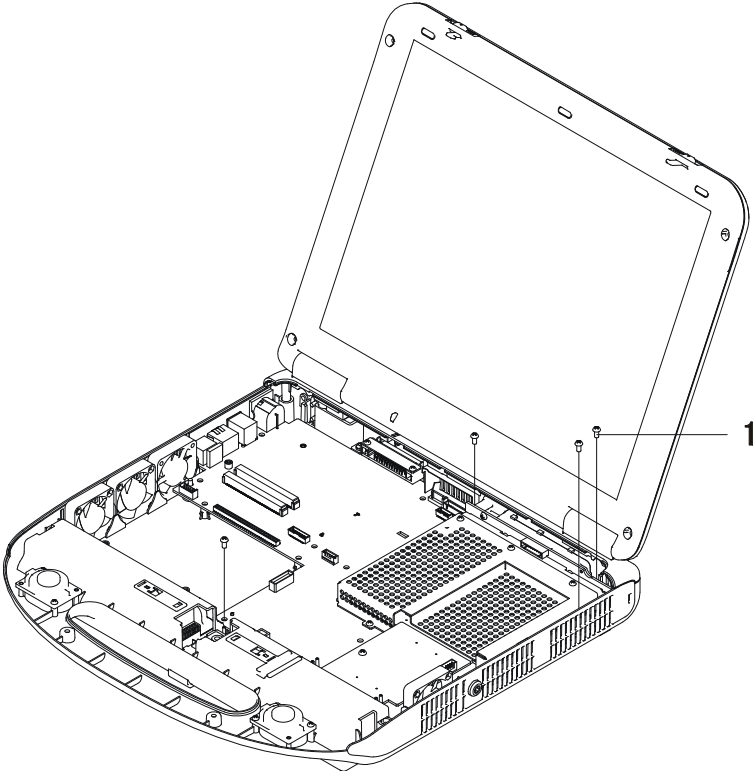

Figure 4-31 Removing Main Board and Transducer Board (2)
- 11) As shown in Figure 4-31, remove four M3×6 screws, move the transducer lever facing upward, and lift the main board upward at 30 degrees;